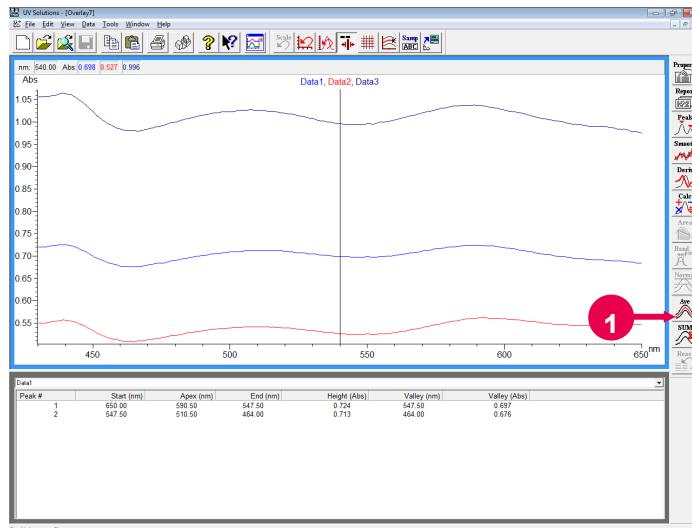
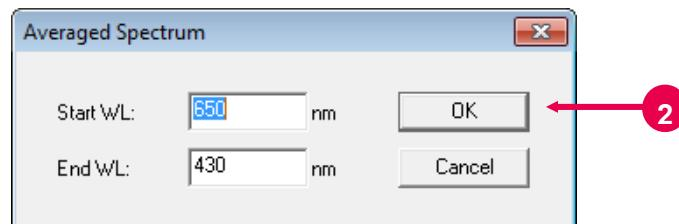

Fig. 5-79
Fig. 5-80
- (1) Open the data file of the wavelength scan file (\*.fds). (Refer to 5.1.) The window shown in Fig. 5-79 will appear.
- (2) Click the (Averaged Spectrum) button. (Refer to ① in Fig. 5-79.) Enter the start wavelength and end wavelength for calculation of an average spectrum and click the **OK** button. (Refer to ② in Fig. 5-80.)